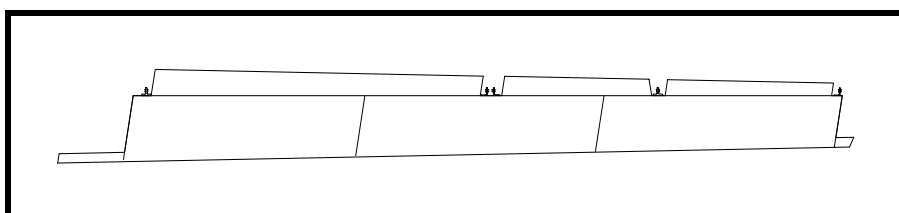

Figure 33
- ☐ Cut out the hinge openings. See Figure 33.